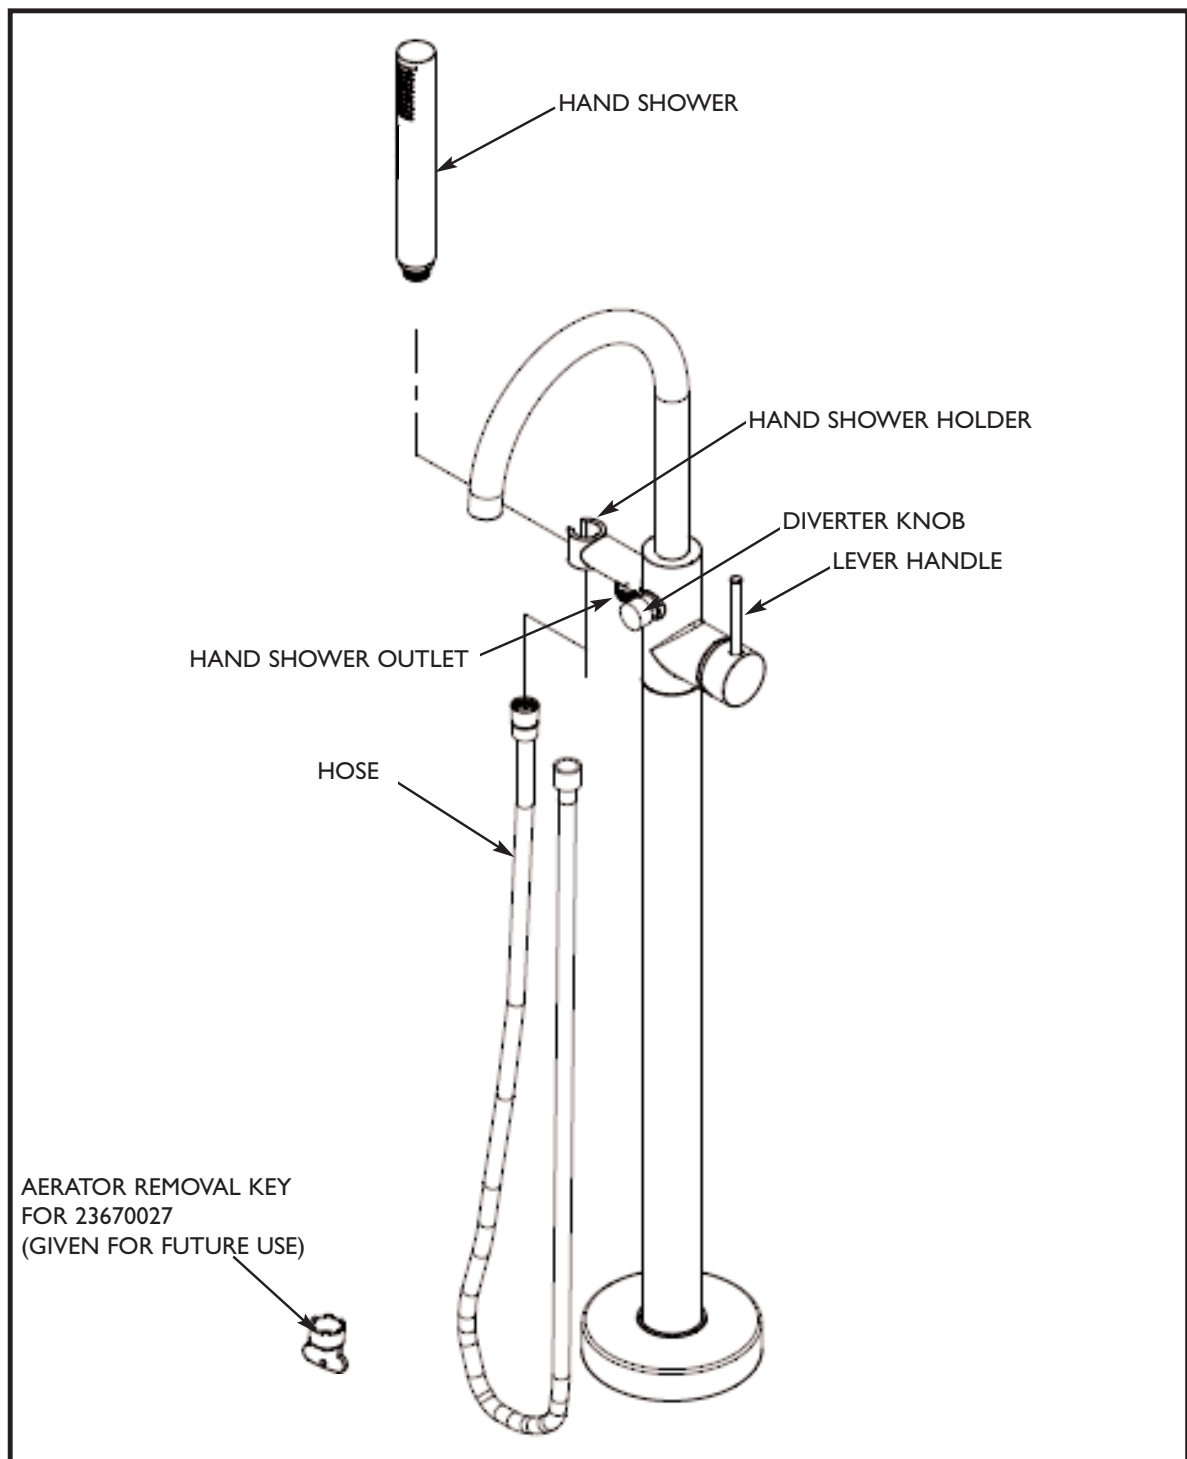

Figure 6
5. Install the Hose to the Hand Shower and the Tub Filler: Figure 6 (next page) illustrates installing one end of the HOSE to the HAND SHOWER OUTLET located under the HAND SHOWER HOLDER. Attach the other end of the HOSE to the HAND SHOWER until both are secure.